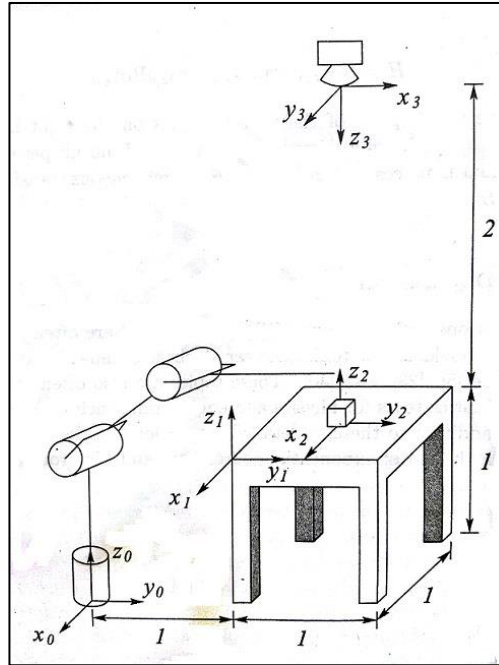

Fig.1C
- 1C.** Consider the Fig.1C. A robot is kept $1m$ from a table. The table top is $1m$ high and $1m^2$. A frame $o_1x_1y_1z_1$ is fixed to the edge of the table as shown. **04**